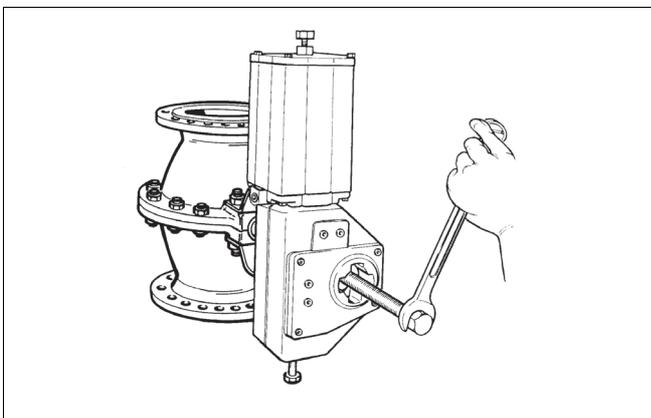

Fig. 9 Removing the actuator with the extractor
- Remove the actuator from the valve with an extractor that can be ordered from the manufacturer (See Chapter "Tools"). See Figure 9.